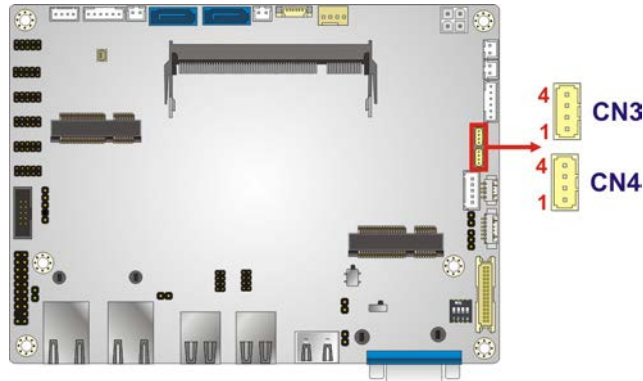

Figure 3-24: SMBUS Connectors Location
- CN Location:** See **Figure 3-24**